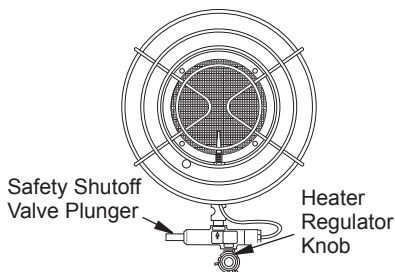
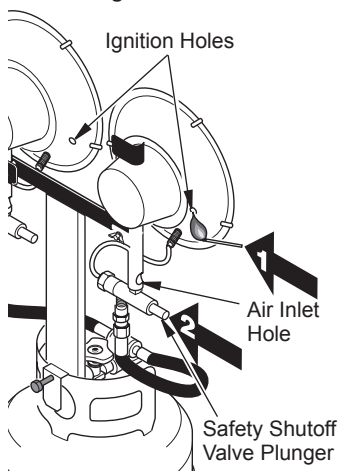

Figure 4
Figure 5
3. Turn the heater regulator knob counterclockwise to the "HI" position (see Figure 4).
4. Locate ignition hole in underside of burner (see Figure 5). Hold a lit match under ignition hole. Push in the safety shutoff valve plunger (see Figures 4 and 5). Burner should light. Mesh screen on burner glows red when lit. After burner is lit, continue holding in safety shutoff valve plunger for 10 to 30 seconds until heater stays lit.